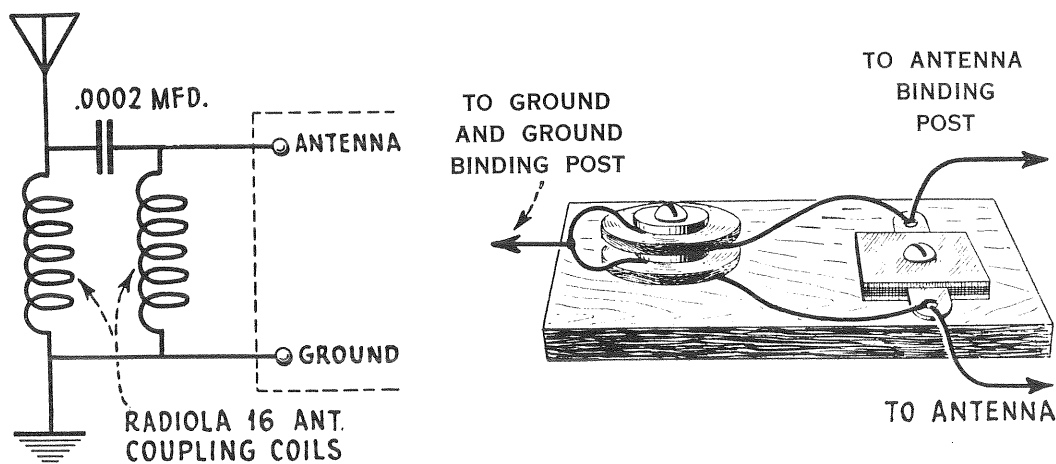

Figure 9—Long wave interference filter
- (b) Connect as shown in Figure 9.